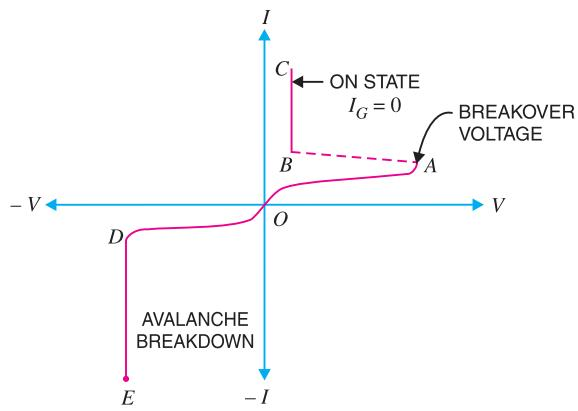

Fig. 20.7
It is the curve between anode-cathode voltage ( $V$ ) and anode current ( $I$ ) of an *SCR* at constant gate current. Fig. 20.7 shows the  $V$ - $I$  characteristics of a typical *SCR*.
**(i) Forward characteristics.** When anode is positive *w.r.t.* cathode, the curve between  $V$  and  $I$  is called the forward characteristic. In Fig. 20.7, *OABC* is the forward characteristic of *SCR* at  $I_G = 0$ . If the supply voltage is increased from zero, a point is reached (point *A*) when the *SCR* starts conducting. Under this condition, the voltage across *SCR* suddenly drops as shown by dotted curve *AB* and most of supply voltage appears across the load resistance  $R_L$ . If proper gate current is made to flow, *SCR* can close at much smaller supply voltage.